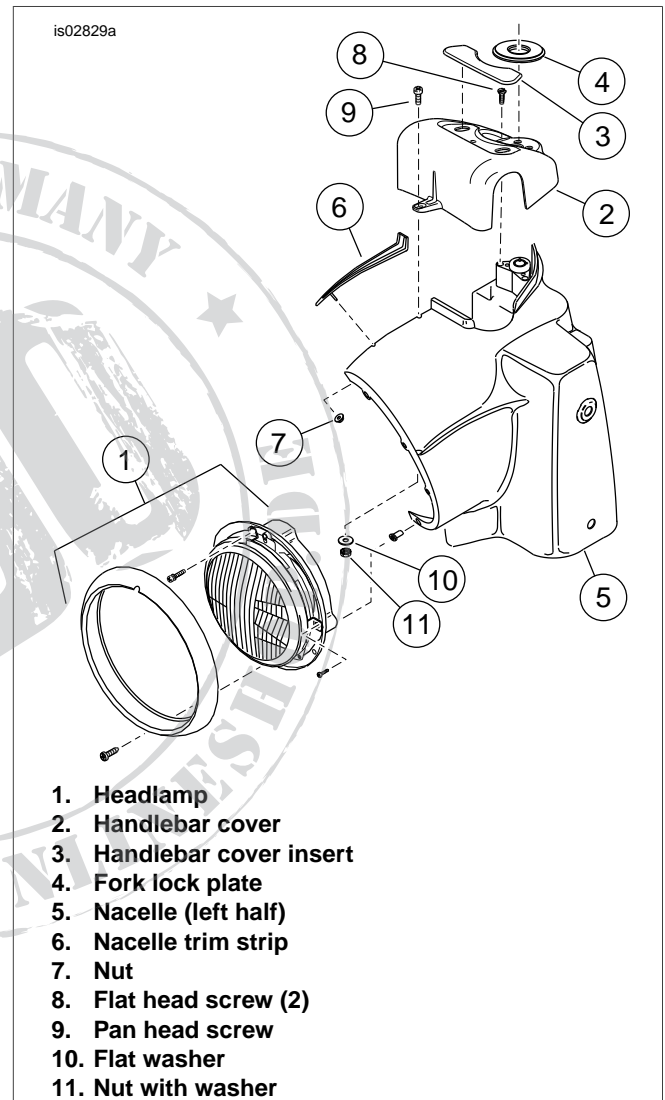

Figure 1. Nacelle, Headlamp and Handlebar Cover (FLHR/C Models)
For FLHR/C models: See Figure 1. Reaching inside the headlamp nacelle (5), remove the flange nut (7) to release the trim strip (6) at the top of the nacelle.